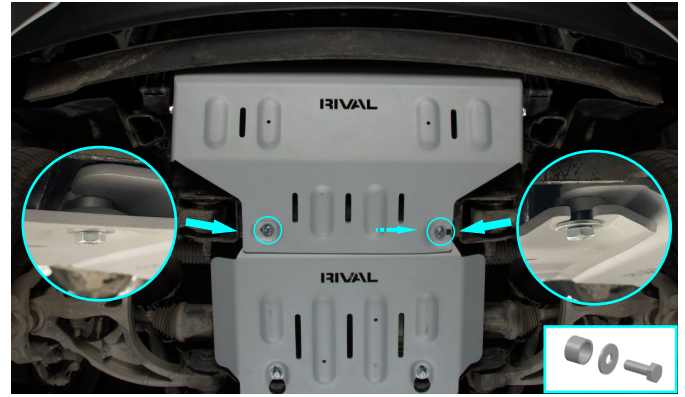

Fig. 8
8. Install bolts M10x50 with flat washers and spacers 8 mm (items C, E, G) into joint skid plates as shown in fig.8.